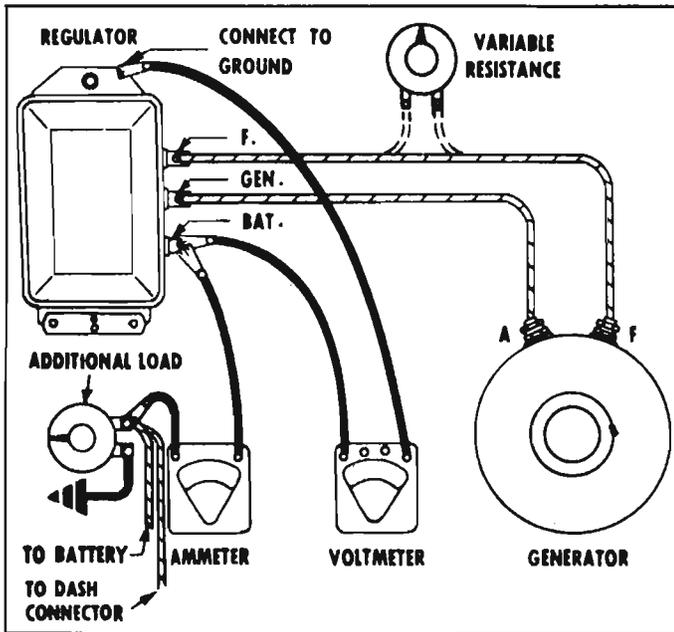

Fig. 8-11—Checking Current Regulator Setting
1. Disconnect battery ground lead. Connect an ammeter into the charging circuit by removing both power wires from BAT terminal of regulator and connecting the ammeter between the power wires and the regulator BAT terminal. Reconnect battery ground lead (fig. 8-11).
3. A variable rheostat of 25 watt capacity can be inserted into the generator field circuit as shown in Figure 8-11. This can be used to decrease and increase the voltage of the generator as required in the cycling procedure without changing engine speed.